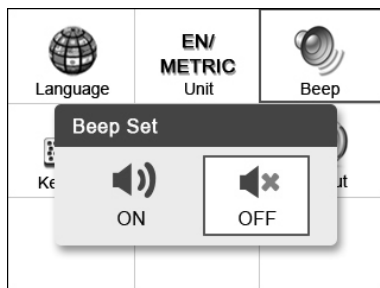

Figure 3.5
- 2) From **Beep Set** menu, use the **LEFT/RIGHT** scroll button to select ON or OFF to turn on/off the beep (Figure 3.5).